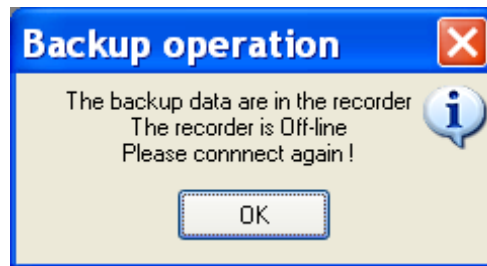

Figure A.4 Backup Operation
6. The Mercury software downloads the RBD file into the recorder and the window in figure A.4 appears. Click OK.